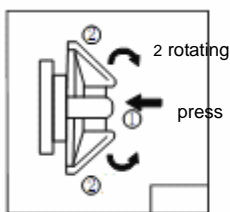

Figure9
2.1 Headband can be adjusted manually to meet needs of different people. Press the rotating gear on it moderately and adjust the tightness of it in order to wear the headband comfortably. The rotating gear on the headband possesses auto-lock function, so rotating forcibly is prohibited in order not to damage gears. (to see figure 9)